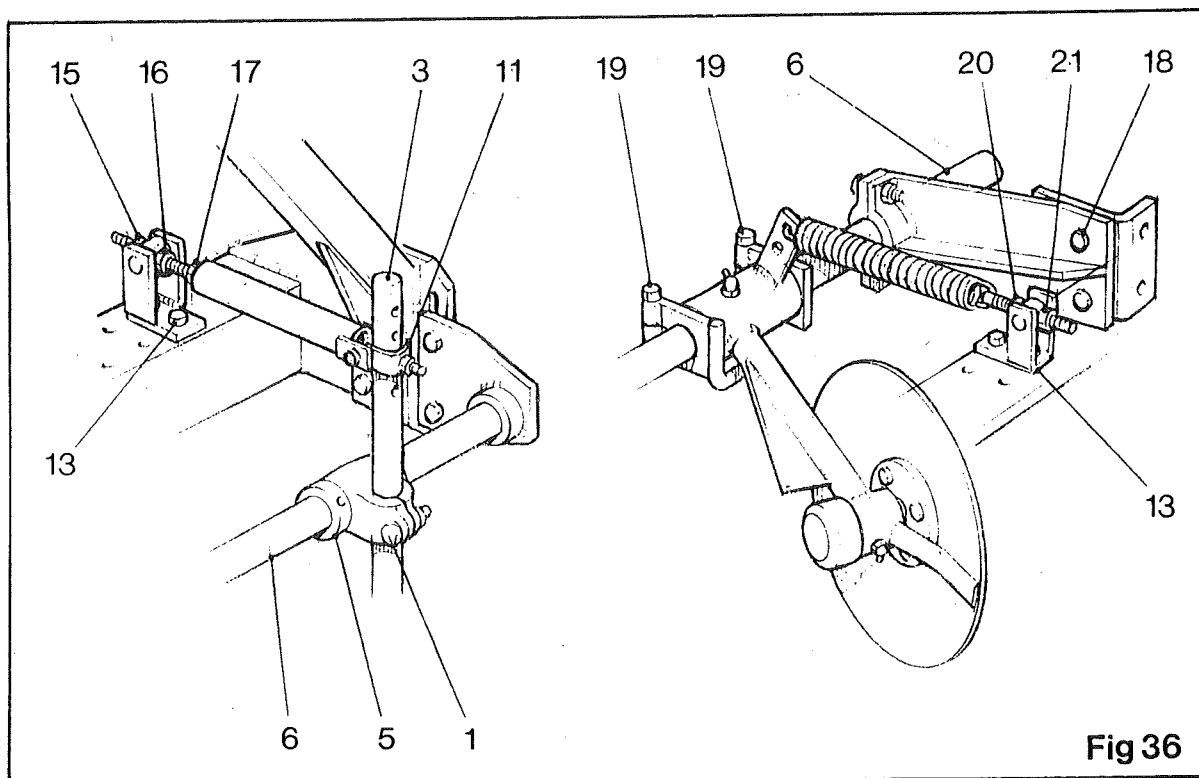

Fig 36
The purpose of the disc couler fitted in front of the topping unit is to cut sugar beet leaves and trash to prevent them from building up and clogging the knife, also to cut a 1½ inches (38 mm) deep furrow for the knife arms. This furrow enables the knife arm to drop down when topping beet at ground level. Adjustment can be made to the depth at which the disc cuts. This adjustment can vary, on some machines loosen the nut and bolt (item 1 fig 36) and slide the couler stalk (item 3 fig 36) up or down to the required depth and resecure, also reposition the tensioner bracket (item 11 fig 36), on other machines the depth can be altered by loosening the four securing bolts (item 18 fig 36) and pivoting the support bar to obtain the required depth.
Each disc couler is adjustable to suit different row-widths. To alter the discs slacken the setscrew in the collars (item 5 fig 36) or the clamps (item 19 fig 36) either side of disc couler and slide the disc couler along the support bar (item 6 fig 36) until the required position is obtained, making sure the disc will pass the widest beet without cutting it, then slide the collars or clamps up to the bracket, and resecure. On the machines with clamps, one clamp has a stop welded to it to stop the disc couler from dropping down when lifting at the end of each row.
Once adjustments have been made for row widths, depth etc. attention must be paid to the tensioning of the disc coulters. The tension setting is very important, this holds the disc firmly in the ground, but still allows it to ride obstructions. To ensure the tensioner works correctly it needs to be in line with the disc stalk (item 3 fig 36). To adjust the tensioner to be line with stalk, remove the nuts and bolts from the trunnion support (item 13 fig 36) and move it along the mounting frame until the tensioner aligns with the disc stalk and secure down onto the mounting frame. To adjust the disc for the correct tension, on some machines turn the locknut (item 17 fig 36) clockwise or anticlockwise and on other machines loosen the locknut (item 20 fig 36) and turn the adjusting nut (item 21 fig 36). If the tension is insufficient the disc will not be held firmly in the ground and consequently it will ride over the tops or trash instead of cutting it. On pre 1988 machines adjustment is provided for setting the angle of the disc, to ensure the disc will cut efficiently the angle of it must be set slightly forward to allow the disc to enter the trash instead of lifting, this adjustment is obtained by loosening the locknut (item 15 fig 36) and turning the adjusting nut (item 16 fig 36), both these nuts must be tight after adjusting, failure to do so will result in damage to the thread.